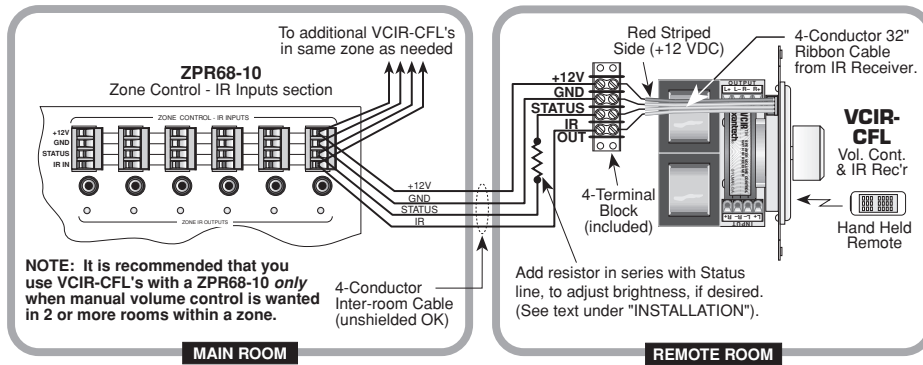

Fig. 4 VCIR-CFL Connections to a ZPR68-10 with STATUS
**Fig. 4** illustrates connection of 2 or more VCIR-CFL's to a ZPR68-10 in a multi-zone system. Here, the STATUS terminal on the zone drives the Status LED in the VCIR-CFL's to have a visible zone ON/OFF indicator in the remote rooms.